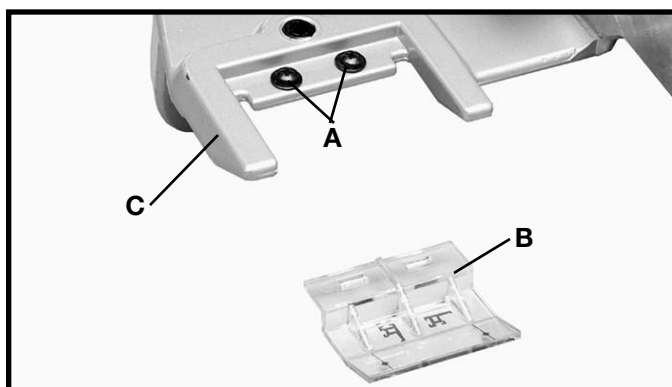
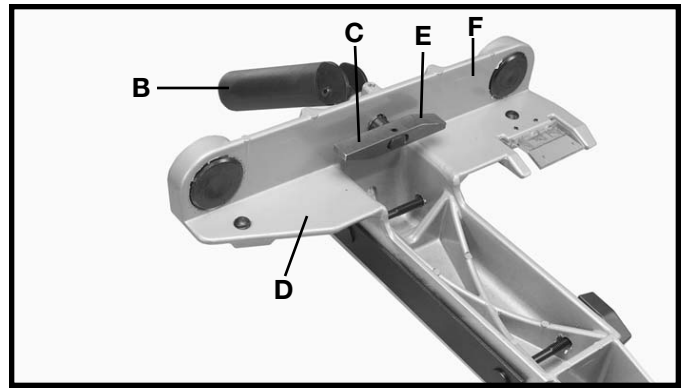

Fig. 32
Fig. 34
1. Remove two screws and flat washers (A) Fig. 32, and assemble the cursor (B) to the Unifence body (C). Replace the two screws and flat washers (A).
1. Turn fence body (A) Fig. 34, upside down and lay it on a table or bench. Push handle (B) in against fence body. Make certain the surface (C) of clamp bracket is parallel to the face (D) of the fence body, and that the inside edge (E) of the clamp bracket is parallel to surface (F) of the fence body. Turn handle (B) Fig. 32, if necessary.